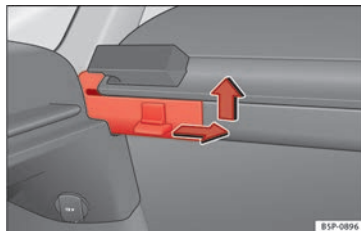

Fig. 106 Removing the storage compartment shelf.
- Press the side pin in the direction of the arrow, lift the cover and remove it » Fig. 106.